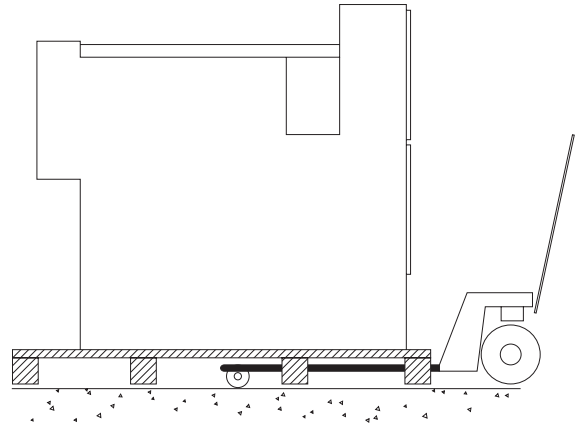

Figure 2.3 Positioning by pallet jack
- position the pallet-jack forks through the front of the cubicle pallet, ensuring the forks reach to at least half way through the depth of the cubicle (refer to figure 2.3)